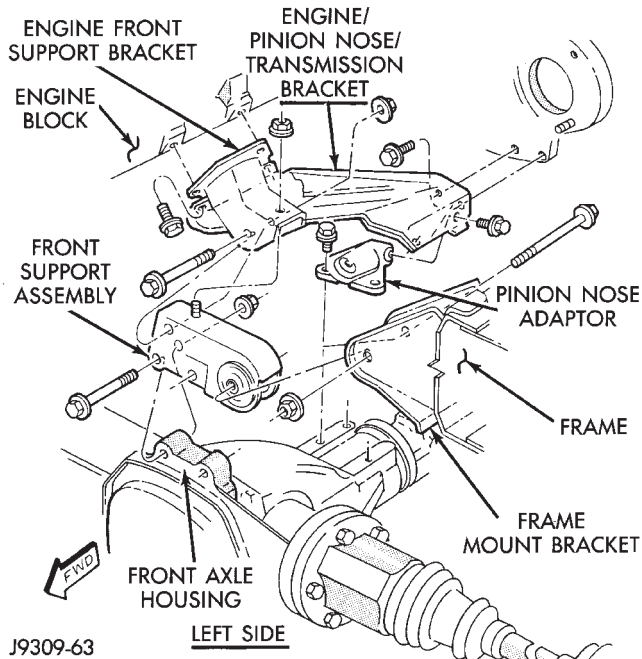
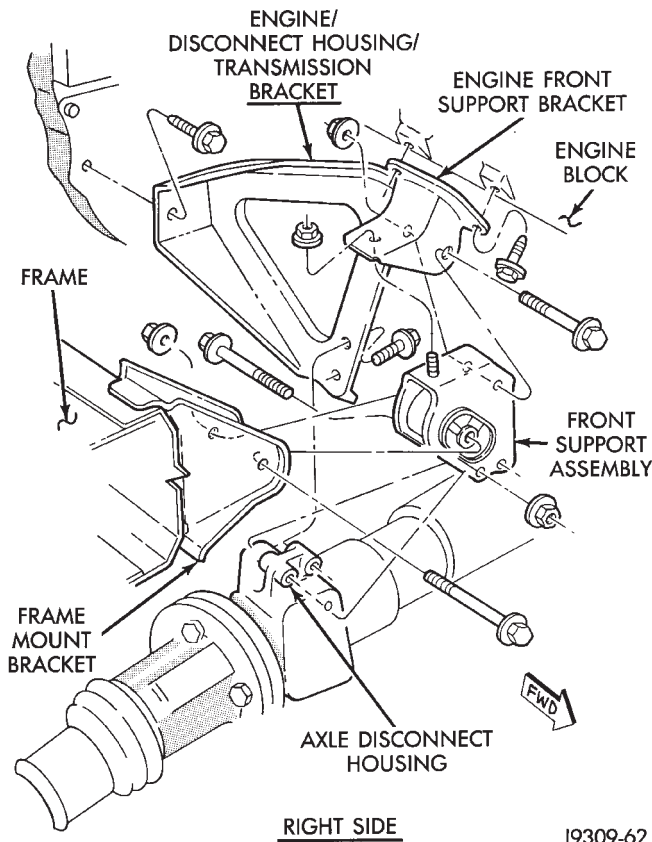

Fig. 17 Engine and Axle Front Support—4WD Vehicles
Fig. 18 Engine and Axle Front Support—4WD Vehicles
- (5) Install front axle support fixture.
- (6) On the LEFT SIDE, remove the bolt that attaches the engine, pinion nose, transmission bracket and the engine front support bracket to the engine block (Fig. 17). On the RIGHT SIDE, remove the bolt that attaches the engine, disconnect housing, transmission bracket and the engine front support bracket to the engine block (Fig. 18).
- (7) Remove the thru-bolt and nut from the front support assembly and the engine front support bracket. Remove the stud nut and washer assembly attaching front support assembly to the engine front support bracket (Fig. 17) (Fig. 18).
- (8) Remove thru-bolts attaching front support assembly to front axle housing (Fig. 17) or axle disconnect housing (Fig. 18).
- (9) Remove front support assembly to frame mount bracket thru-bolt. Raise engine slightly to clear front support assembly stud (Fig. 17) (Fig. 18). Remove the front support assembly.
(1) Position front support assembly in frame mount bracket and align with axle housing (left side) attaching points or axle disconnect housing (right side). Install the thru-bolts (Fig. 17) (Fig. 18). Tighten the nuts to 102 N·m (75 ft. lbs.) torque.
(2) Lower engine while guiding engine front support bracket onto front support assembly stud. Install stud nut and thru-bolt (Fig. 17) (Fig. 18). Tighten stud nut to 41 N·m (30 ft. lbs.) torque. Tighten the thru-bolt nut to 102 N·m (75 ft. lbs.) torque.
(3) On the LEFT SIDE, position the bolt that attaches the engine, pinion nose, transmission bracket and the engine front support bracket to the engine block (Fig. 17). On the RIGHT SIDE, position the bolt that attaches the engine, disconnect housing, transmission bracket and the engine front support bracket to the engine block (Fig. 18). Tighten the bolts to 41 N·m (30 ft. lbs.) torque.
- (4) Remove the front axle support fixture.
- (5) Lower the vehicle.